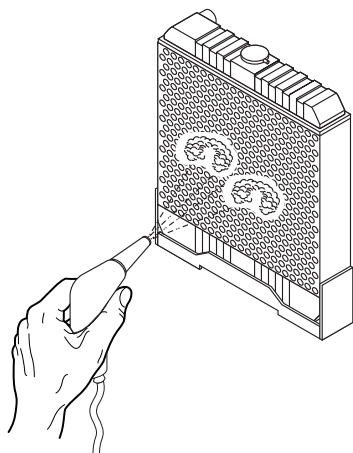

Figure 25. Radiator Cleaning
1. Blow off dirt and dust from the fins and radiator with 28 psi (0.19 MPa) or less of compressed air (Figure 25). Be careful to not damage the fins with the compressed air.